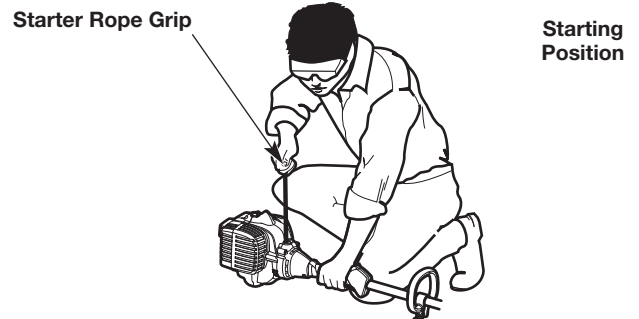

Fig. 13
WARNING: Avoid accidentally starting the unit. To avoid serious injury, the operator and the unit must be in a stable position when pulling the starter rope (Fig. 13).
2. Crouch in the starting position (Fig. 13).
4. Continue to hold the throttle lockout and throttle control. Pull the starter rope with a controlled and steady motion until the unit starts (Fig. 13).